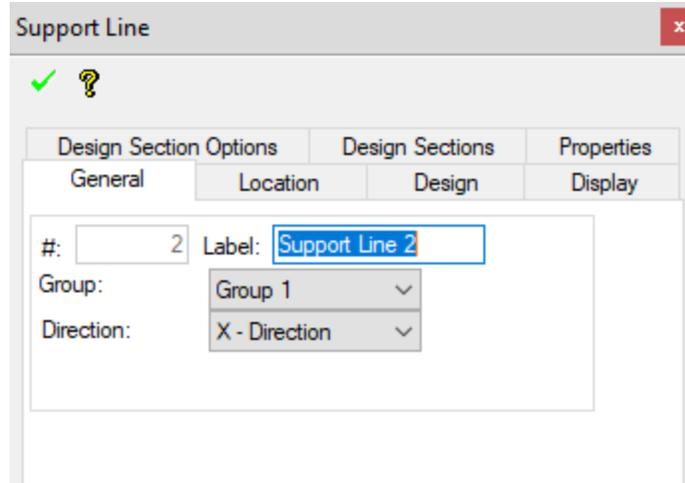

Figure 6-7
- Click on the *Item's Properties*  icon of the **Bottom Quick Access Toolbar**. This will open the *Support Line* properties window as shown in **FIGURE 6-7**. If it is not open to the *General* tab click on *General* to switch to the *General* tab view shown below.